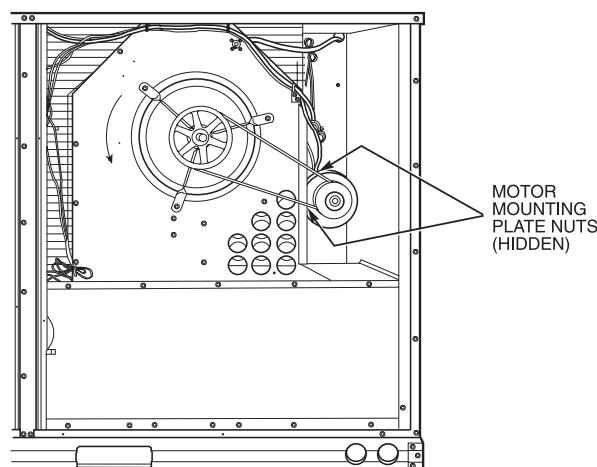

Fig. 39 — Typical Belt-Drive Motor Mounting for Size 012
- Size 012* — Slide the motor mounting plate downward to tighten belt tension ($1\frac{1}{2}$ -in. deflection with 5 to 10 lb of force). Secure the motor mounting plate nuts. See Fig. 39.